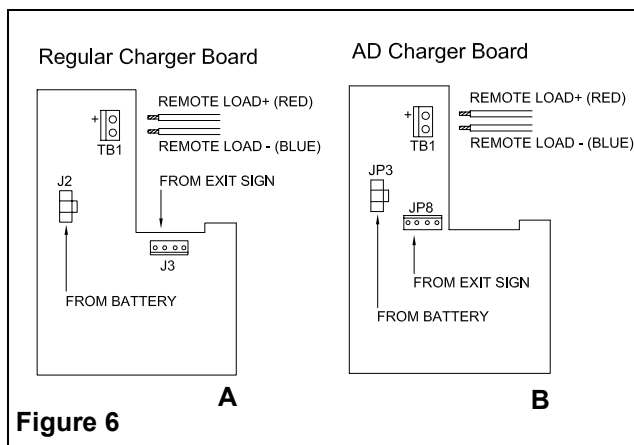

Figure 6
13. For regular charger board, connect the EXIT sign harness to the J3 terminal (see fig.6 A). For AD charger board, connect the EXIT sign harness to the JP8 terminal (see fig.6 B).
14. Connect the remote load wires to the TB1 terminal block. Check for correct polarity before connecting (see fig. 6). Do not exceed the rated remote power of the equipment (check catalogue for details).
15. Connect the battery harness to J2, for regular charger board (see fig.6 A) or to JP3, for AD charger board (see fig.6 B).